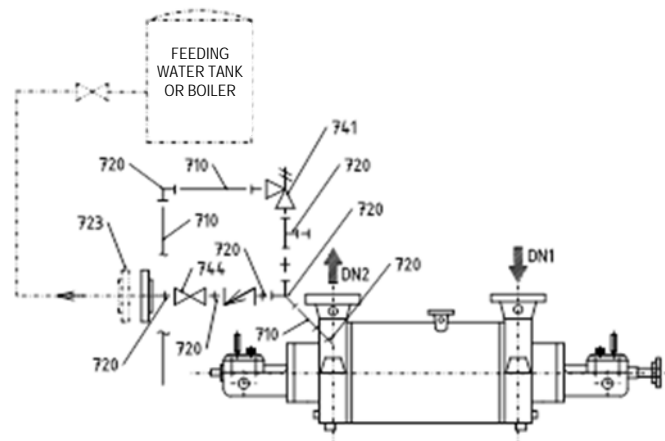

Fig.6 – Balance line piping sketch with return to the suction tank
On the back of the balance disc, between the discharge casing (107) and gland packing (451) there is a chamber where the balance piping is installed and can be returned to suction casing or tank, depending on specific conditions. See Figures 6 and 10.